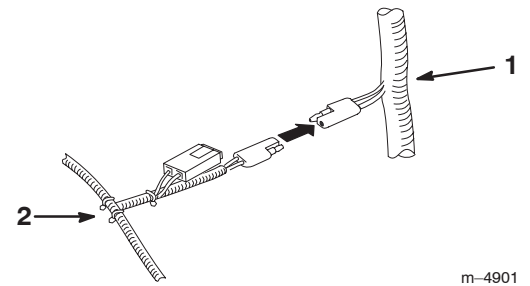

Figure 11
6. Connect the connector in the center of the lighting wire harness to the connector on the main wire harness (Fig. 11).